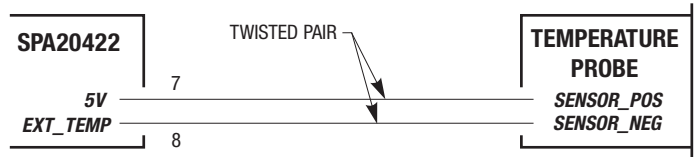

Figure 6. Wiring to External Temperature Probe.
2.5 External Temperature Sensor. An AD590-style external temperature sensor can be wired to the SPA20422. This type of sensor has a current output of approximately 1 microamp/°K. The sensor is a polarized two-wire device – the negative side of the sensor is connected to the **EXT_TEMP** signal, while the positive side of the sensor is connected to the **5V** signal (see Figure 6).